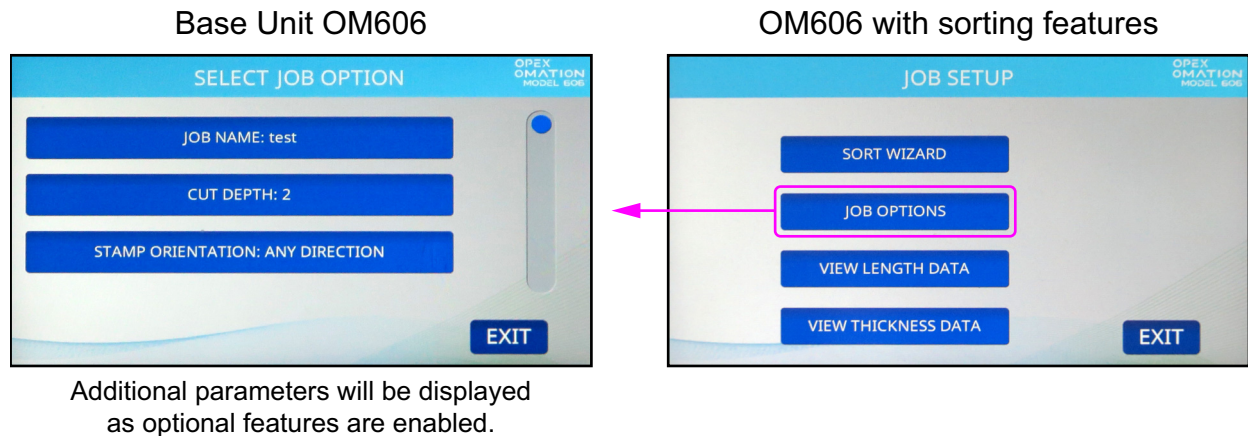

Figure 6-5: Screen varies with machine configuration
4. The next screen will vary with the configuration of the OM606 (Figure 6-5).